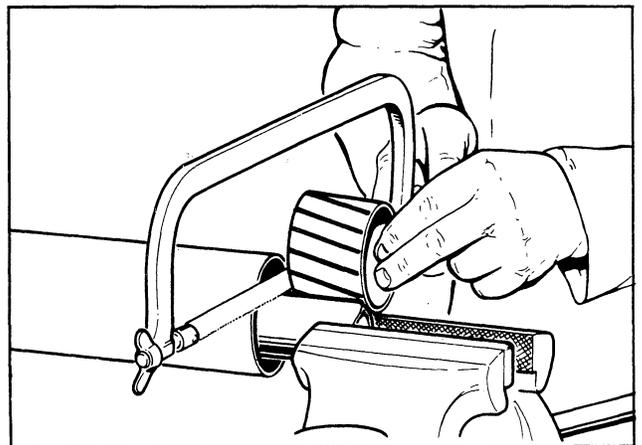

Figure 18
- Using the cut off section as a guide, cut the shaft the same amount. (Figure 18)